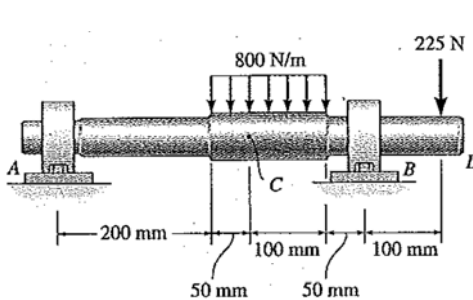

Figure 2.1
**Ví dụ 02:** Determine the resultant internal loadings acting on the cross section at C of the machine shaft shown in Fig. 2.1. The shaft is supported by bearings at A and B, which exert only vertical forces on the shaft.